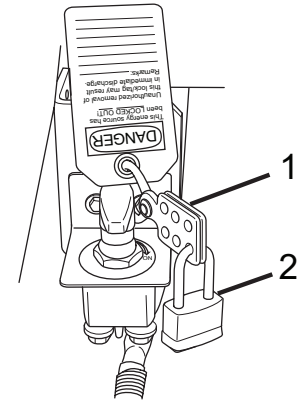

Figure 2
2. Install the safety lockout device ring (Figure 2, Item 1) through the holes on the battery disconnect switch and the bracket.
3. Install a padlock (Figure 2, Item 2) onto the safety lockout device ring, lock it, and put the key in your pocket. If more than one person is working on the vehicle, each person must install their own padlock.